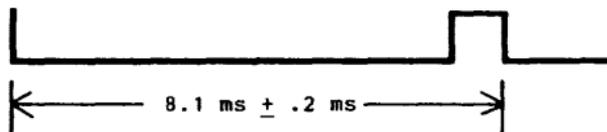

FIGURE 2
4. On Terminate, the tractors will rotate then stop as system checks status, and then rotate again, etc. As tractors are rotating, adjust R206 for 8.1 ms (± 0.2 ms) from trailing edge to trailing edge as indicated in Figure 2 below.